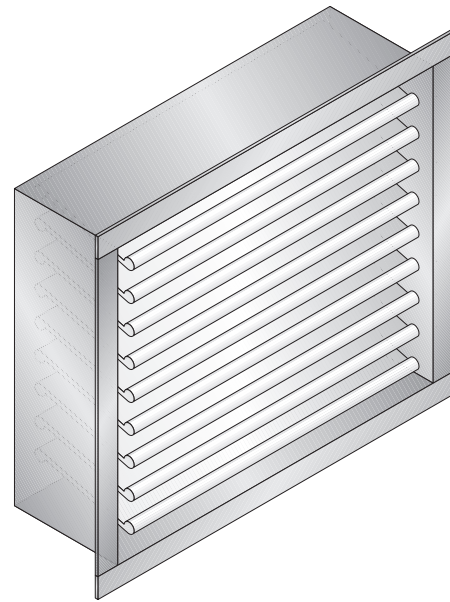

Figure 3.1: Provide Air Openings for Combustion and Ventilation Air
1. **Air Openings:** Provide air openings for combustion and ventilation as required by ANSI Z223.1 and local requirements (Figures 3.1, 3.6 and 3.7).